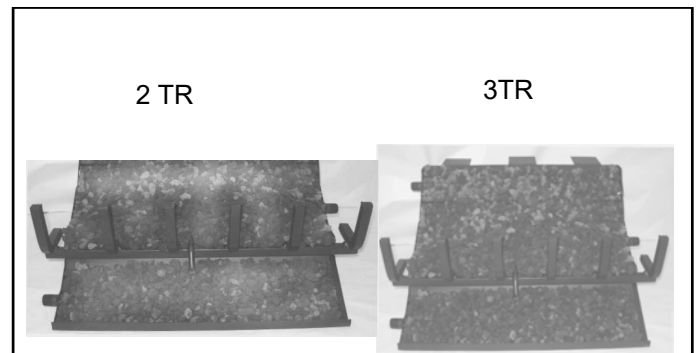

Figure 7.3 Lava Placement
2. Level the Lava Rock from side to side to ensure an even flame pattern. At this point the pans should be half full. See Figure 7.3.